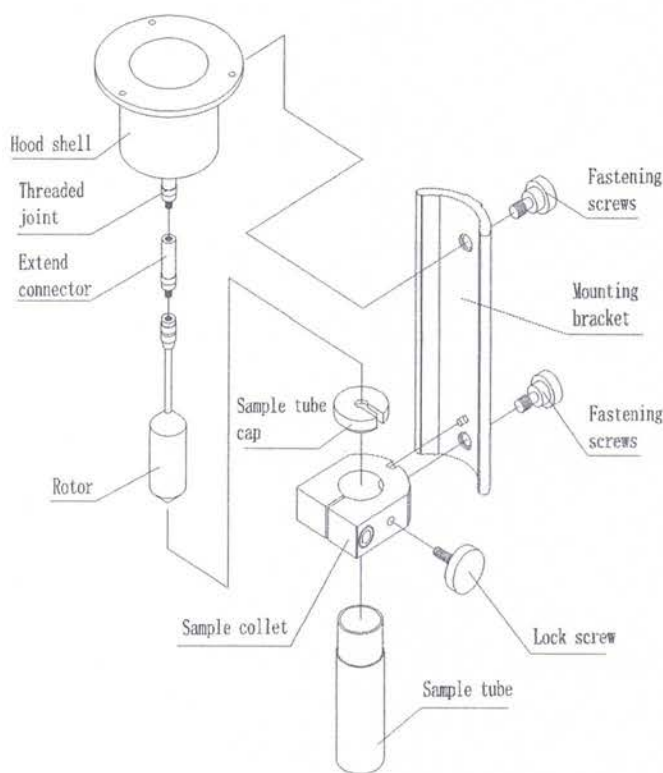
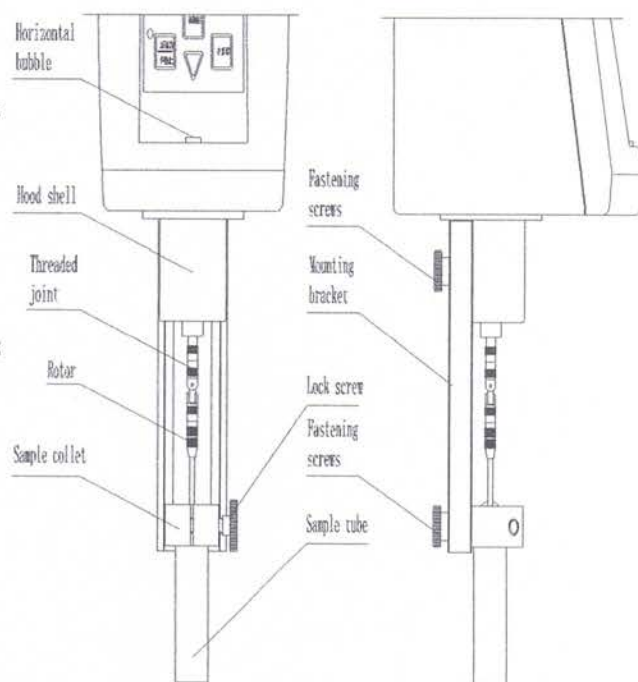

Fig. 9
Fig. 10
5) According to the selected rotor, pour the required sample amount (see the table below) for testing. After completion, put the sample tube cap on it, as shown in Fig.9 and Fig.10.